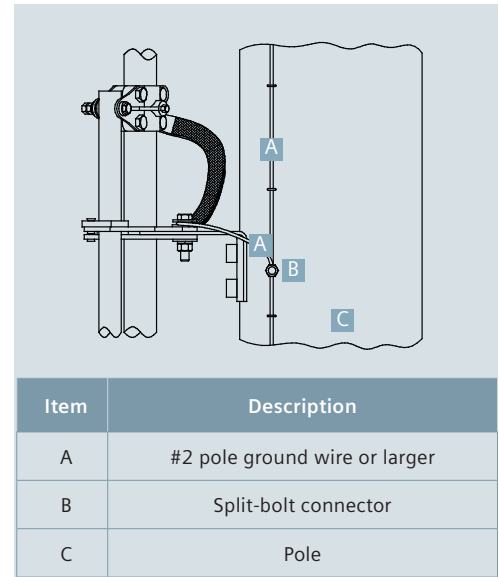

Figure 9: Grounding
8. Ground the lock segment/handle assembly to the pole ground using a #2 or larger flexible copper wire (refer to Figure 9: Grounding).